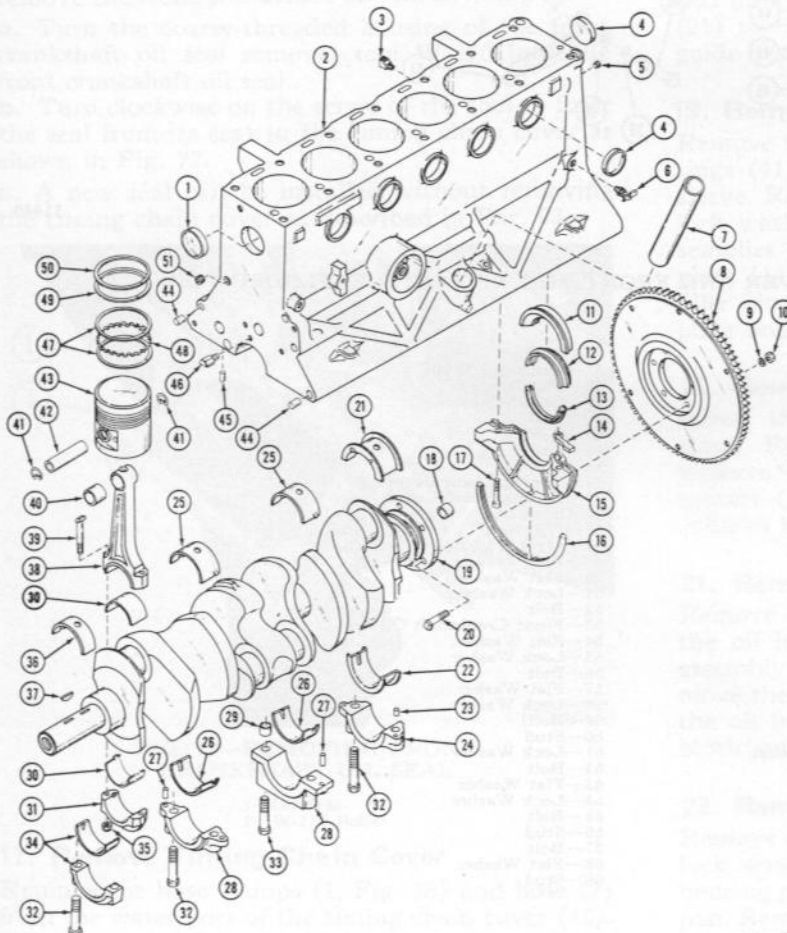
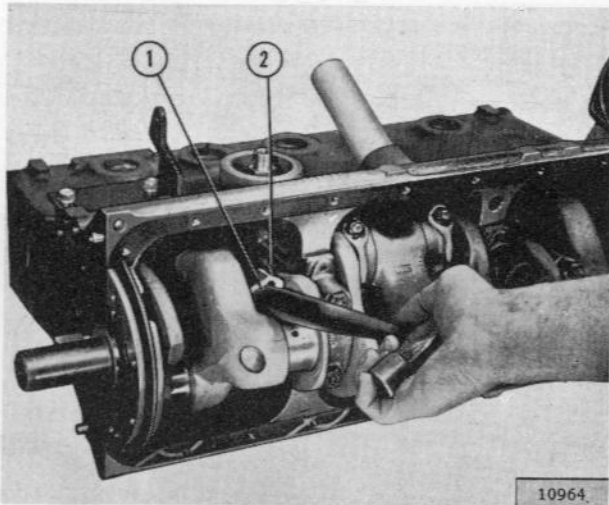

FIG. 81—ENGINE CRANKCASE, EXPLODED VIEW
FIG. 82—REMOVING PISTON AND CONNECTING ROD ASSEMBLY
Remove the self-locking nuts (35, Fig. 81) that attach the connecting rod bearing cap (31) to one of the connecting rods (38). Remove the bearing cap. Push the connecting rod and piston assembly out of the cylinder block (2) with the handle end of a hammer as shown in Fig. 82 until the piston rings are free from the cylinder bore. Remove the piston and connecting rod assembly from the top of the cylinder block. Reassemble the connecting rod bearing cap, with the bearings in place, to the rod from which it was removed. Rotate the crankshaft and follow the same procedure until all the piston and connecting rod assemblies are removed.
- Remove the nuts (10, Fig. 81), lockwashers (9) and flywheel bolts (20) that attach the flywheel (8) to the crankshaft (19); remove the flywheel.
- Remove the main bearing cap bolts (32 and 33, Fig. 81) that secure the main bearing caps to the cylinder block.